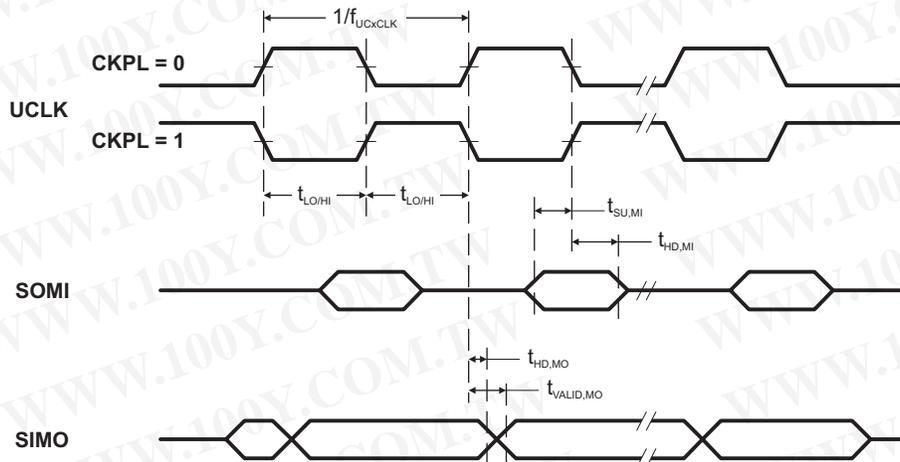
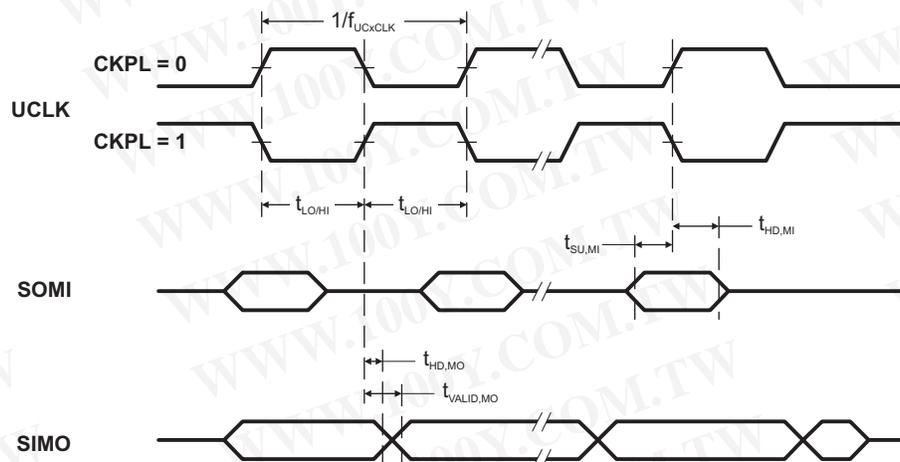

Figure 11. SPI Master Mode, CKPH = 0
Figure 12. SPI Master Mode, CKPH = 1
(see Note (1), Figure 11 and Figure 12)
- (2) Specifies the time to drive the next valid data to the SIMO output after the output changing UCLK clock edge. Refer to the timing diagrams in Figure 11 and Figure 12.
- (3) Specifies how long data on the SIMO output is valid after the output changing UCLK clock edge. Negative values indicate that the data on the SIMO output can become invalid before the output changing clock edge observed on UCLK. Refer to the timing diagrams in Figure 11 and Figure 12.
- (1)  $f_{UCxCLK} = 1/2 \times t_{LO/Hi}$  with  $t_{LO/Hi} \geq \max(t_{VALID,MO(Master)} + t_{SU,SI(USCI)}, t_{SU,MI(Master)} + t_{VALID,SO(USCI)})$ . For the master's parameters  $t_{SU,MI(Master)}$  and  $t_{VALID,MO(Master)}$ , see the SPI parameters of the attached slave.
- (2) Specifies the time to drive the next valid data to the SOMI output after the output changing UCLK clock edge. Refer to the timing diagrams in Figure 11 and Figure 12.
- (3) Specifies how long data on the SOMI output is valid after the output changing UCLK clock edge. Refer to the timing diagrams in Figure 11 and Figure 12.